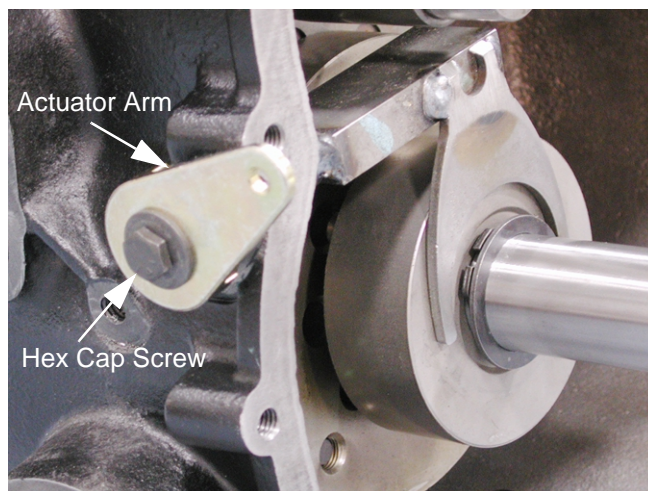

Figure 21
29. Remove the hex cap screw securing the actuator arm to the differential lock assembly using a 7/16" socket. See Figure 21.